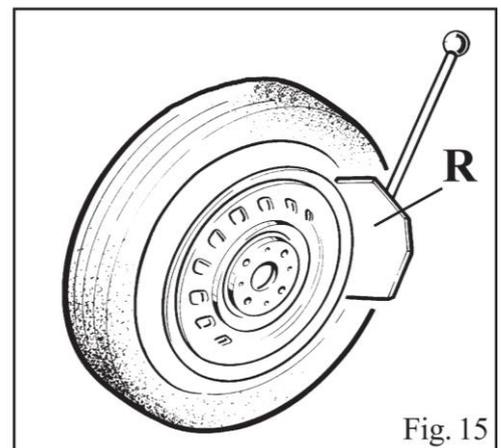

Fig. 15
- Position the wheel against the rubber stops on the right side of the tire changer (S).
- Position the bead breaker (R) against the tire bead at a distance of about 1 cm from the rim (fig. 15). Pay attention to the blade, which must operate correctly onto the tire and not onto the rim.
- Press down the pedal (U) to activate the bead breaker and release it when the blade has reached the end of its travel or in any case when the bead is broken.